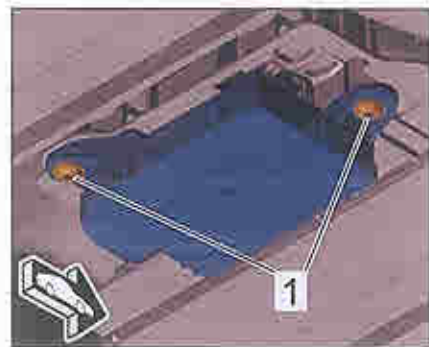

Figure 3
- 5.1 Unscrew fastening screws ⇒ *Figure 3 -1-*.